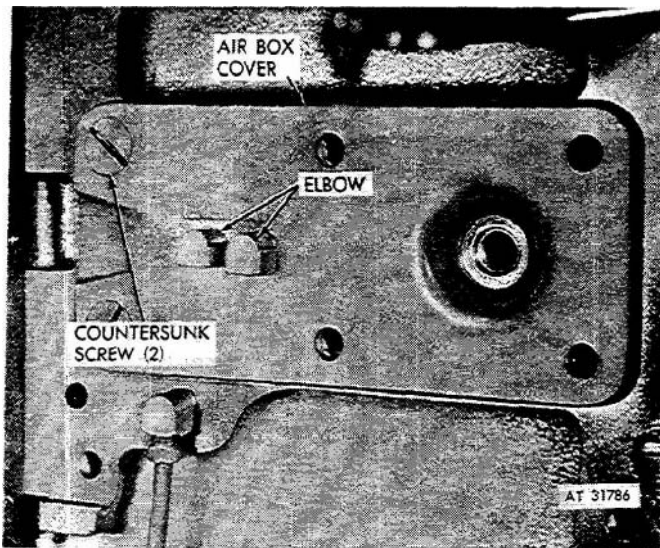

Figure 2-16. Air box cover, removal and installation.
(7) Disconnect hose (9) and tube (10) from elbows on air box cover (1).
(8) Disconnect elbows (fig 2-16) from air box cover. Disconnect air box cover by removing countersunk screws.
(2) Connect assembled air box cover (fig 2-16) to engine and secure with countersunk screws. Connect elbows to air box cover.